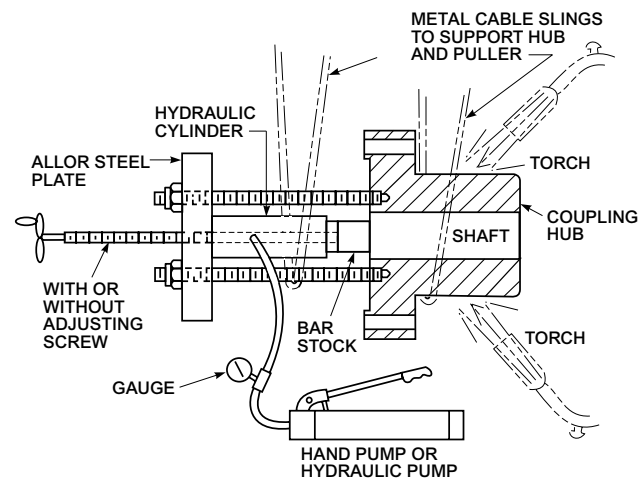

Figure 6 — BASIC TYPE 2 HUB REMOVAL EQUIPMENT
- b. Assemble puller as shown in Figure 6. Check to make sure puller has enough stroke to pull the hub off. Be sure to adequately support both the hub and puller assembly using metal cable slings. Reference Table 3 for the hub puller bolt hole mounting pattern.